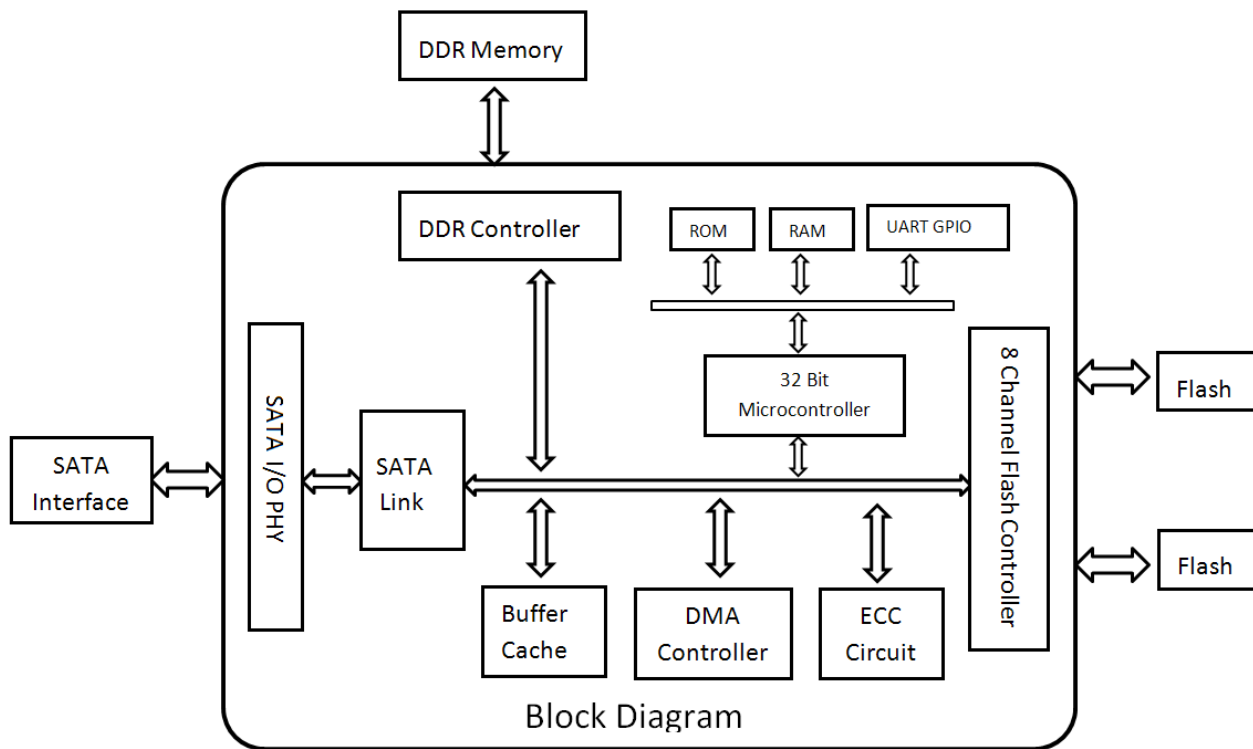

Figure 1. mSATA Flash Controller Block Diagram
- Figure 1. mSATA Flash Controller Block Diagram4
Figure 1 below provides a functional block diagram showing the interaction of mSATA SSD components.